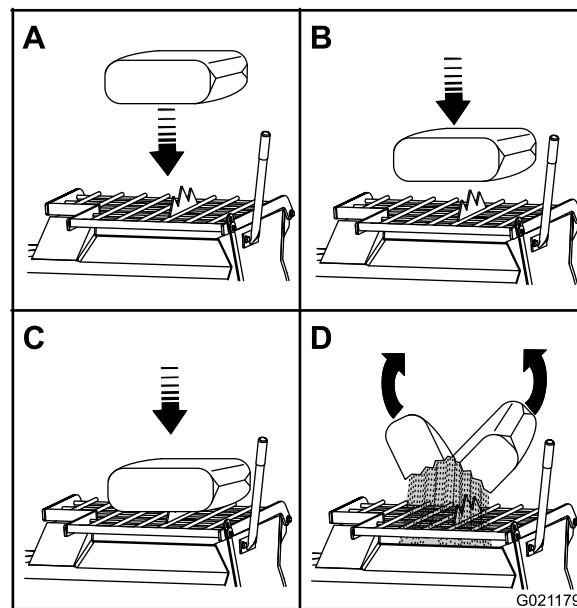

Figure 26
**Note:** You can open bags of cement, plaster, and binding materials by lowering the bag onto the bag splitter (Figure 26).